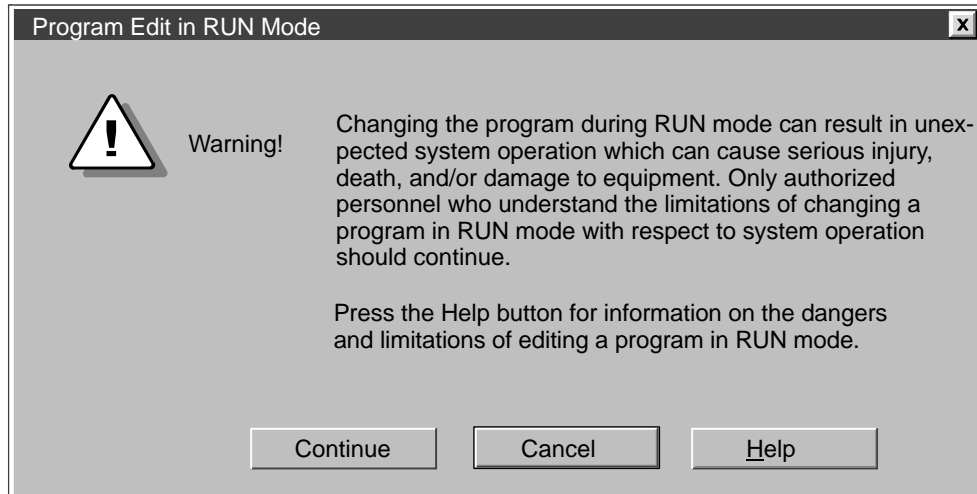

Figure 4-23 RUN mode Edit Dialog Box
3. The warning in Figure 4-23 appears. When you select the "Continue" button, the program from the connected CPU is uploaded and the application is in RUN mode edit. No restrictions on edits are enforced.